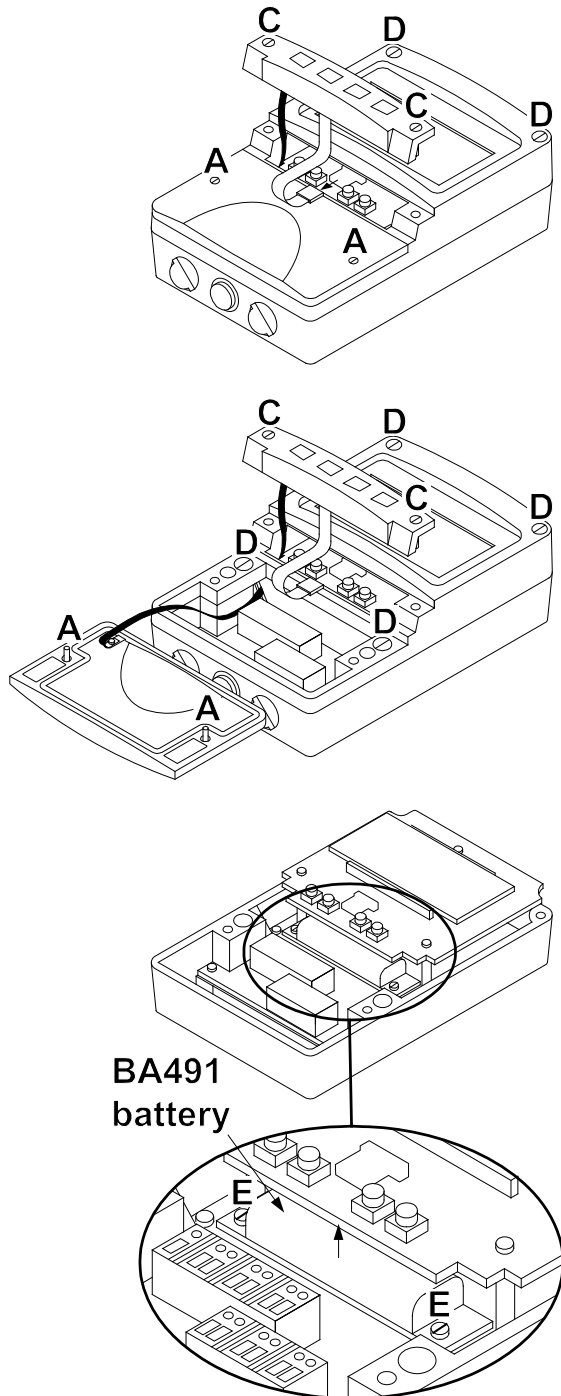

Fig 7 Replacement of internal battery
The discharged battery may be removed and the replacement fitted while the BA344D rate totaliser is installed in the hazardous area. Fig 7 illustrates the replacement sequence:
- d. Remove the two 'E' screws securing the BA491 battery and gently pull the battery away from the instrument printed circuit board – see Fig 7.